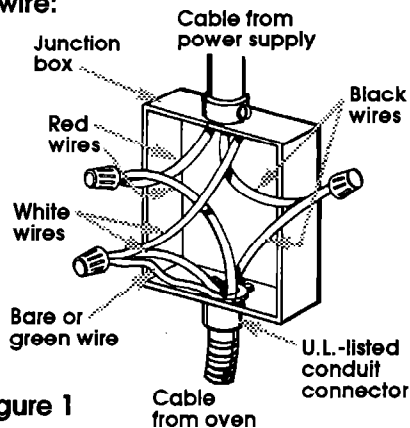

Figure 1
4. Connect the two black wires together; then the two red wires together. See Figure 1.